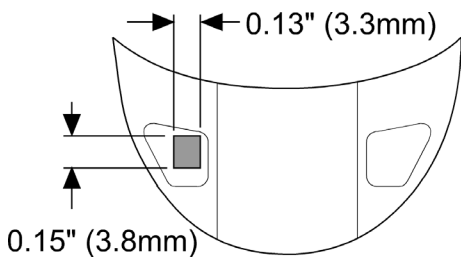

Figure 3
2. On the starboard nose access panel, cut a rectangular hole as shown in Figure 3. Glue in the blade sensor assembly (part 2) from underneath and sand flush. If you are careful cutting the hole, you can leave the joint unfilled, since this assembly has a natural metal bezel which is riveted to the camouflaged fuselage.